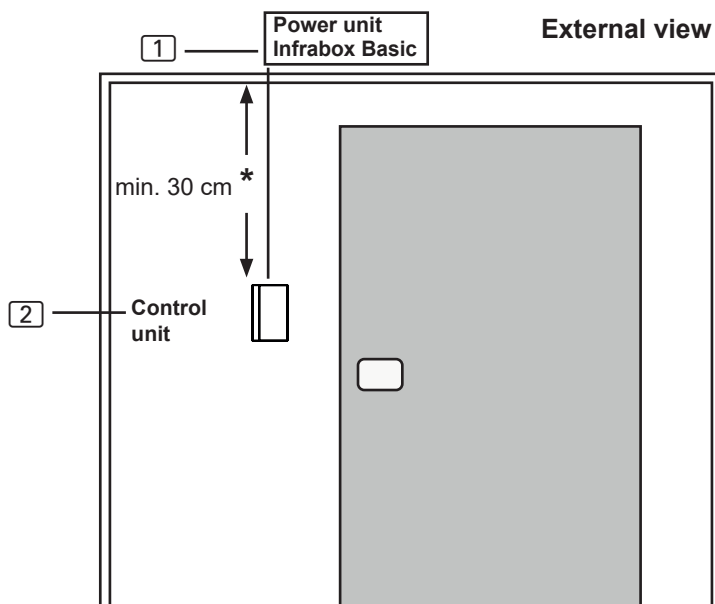

Fig. 2 Control panel position
The control unit [2] of the infrared controller is installed on the outside wall of the cabin with a maximum clearance of 10 metres from the power supply unit [1] (see Fig. 2). For the installation, a standard jigsaw is required to cut out the recess for the control unit. The operating unit can be installed both inside and outside the cabin.
*For installation inside a sauna cabin, maintain a distance of at least 30 cm to the ceiling. (see Fig. 2 Control panel position on page 12).